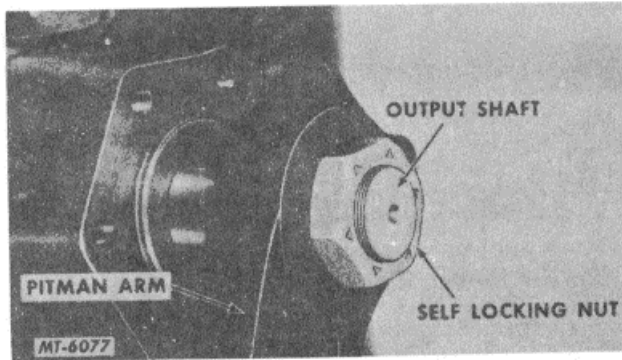

Fig. 37
2. The second method of securing the pitman arm on the output shaft is with a large self-locking nut, which is threaded onto the end of the output shaft and tightened to specified torque to force the pitman arm in place, Fig. 37.